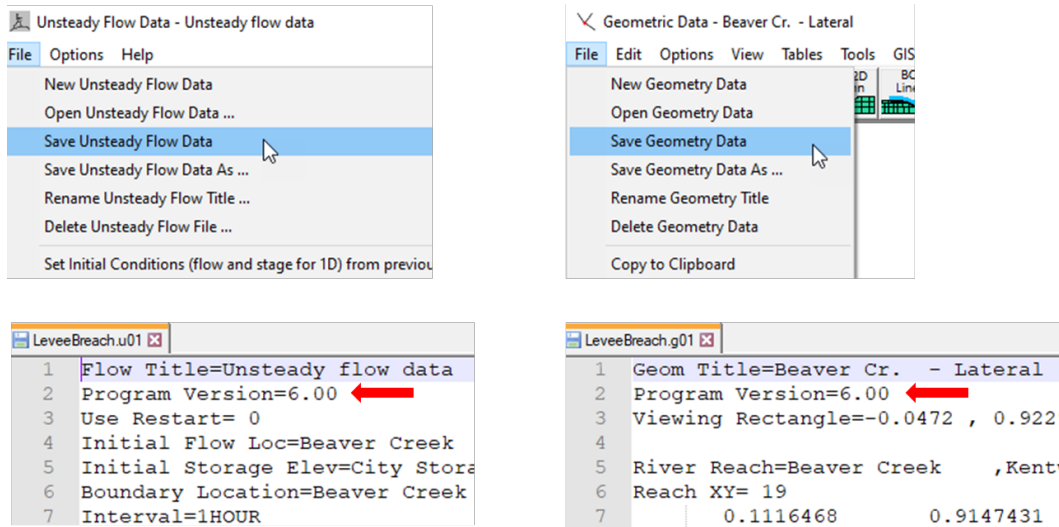

Figure 6 Update of the Unsteady Flow Data (left) and Geometry Data (right) text files through the HEC-RAS data editors.
The HEC-RAS GUI input files listed in (1) are updated by opening the corresponding data editor and performing the file “Save” operation. The program version number appears in the second line of the text model file and should be 6.00. Figure 6 illustrates this for the Unsteady Flow and Geometric Data editors. The *.p01 (Plan file) is updated with the file save operation in the Unsteady Flow Analysis dialog. The *.prj (RAS project) file is saved from the main HEC-RAS GUI dialog.